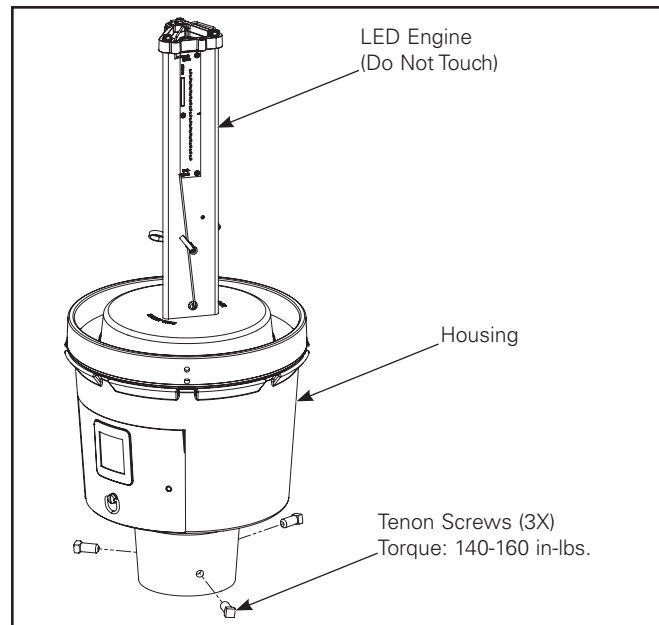

Figure 2.
3. Place luminaire on pole and rotate until "STREET SIDE" is oriented toward the street or desired position. Tighten three square head bolts to 140-160 in-lbs. (Figure 2.)